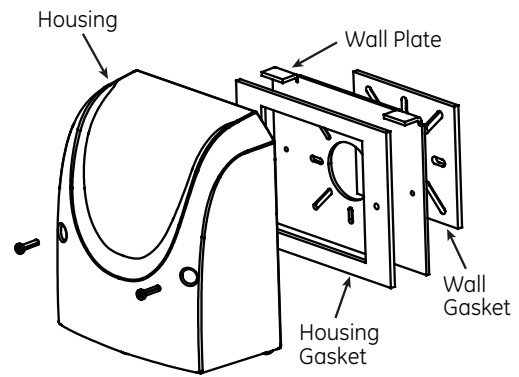

Figure 1: Wall Plate Install
- Apply nested gasket pair to plate or box as shown in Figure 1 or 2.
- For surface conduit installations, position the mounting box and lag-bolt (not provided) into the mounting surface through the slots provided in the back cover (Figure 1 or 2).